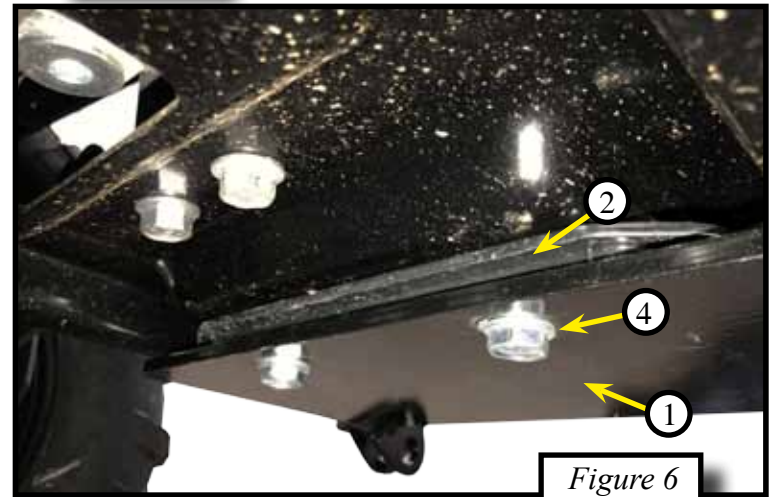

Figure 6
5. Set the spacer plate (2) between the frame of the machine and the mount (1). Shown in Figure 6.